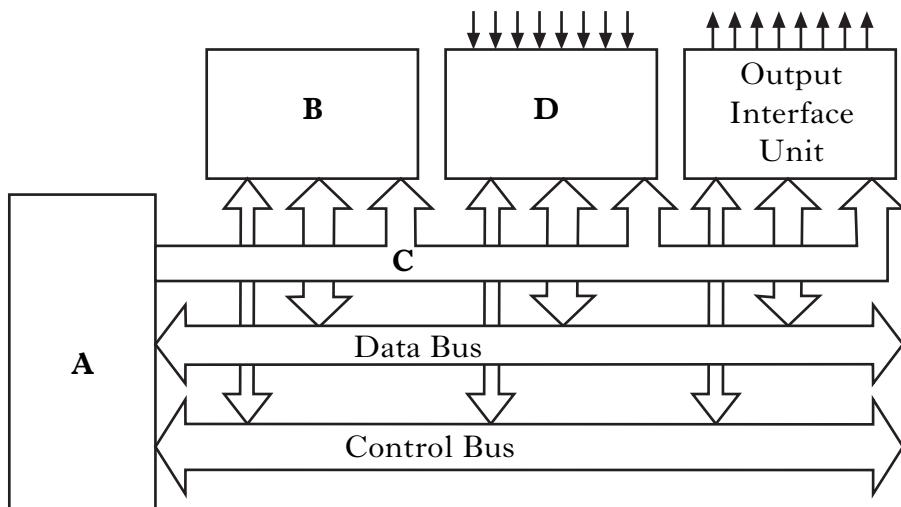

Figure Q4(a)
4. (a) Figure Q4(a) illustrates the basic architecture of a microcontroller. Some elements have been identified with the letters A to D. On **Worksheet Q4**, complete Table Q4(a) by entering the names of the elements labelled A to D.